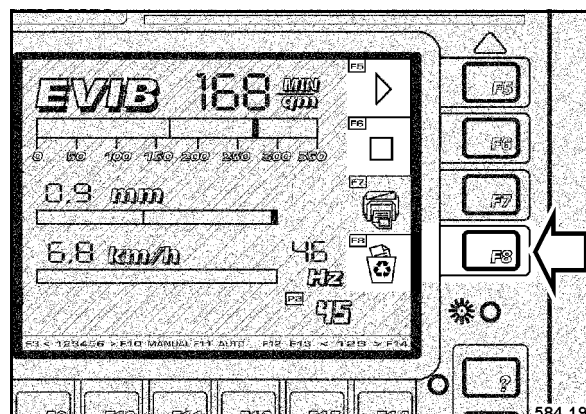

Fig. 101
- If no further printouts of this track are needed, press the button F8 "DELETE" (Fig. 101) when the red control lamp F6 "FINISHED" lights up.